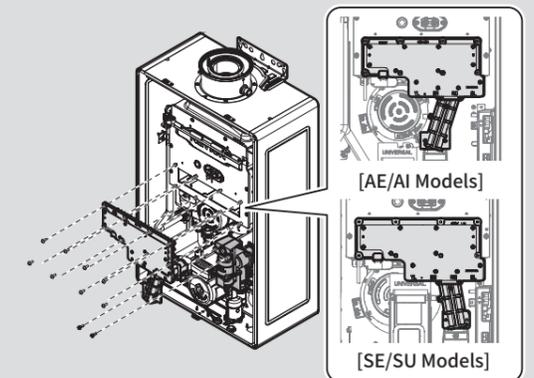

Figure 4-2
5. Remove the ignition transformer and disconnect the flame detector cable and the multi-stage gas valve cable. Then, remove the 8–10 bolts as shown in Figure 4-2 to detach the original Gas Manifold Assembly from the water heater.